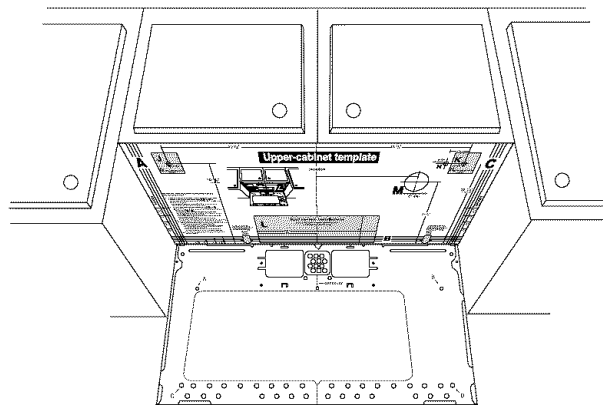

Figure 23
See **Figure 23**.
5. Measure the bottom of the upper cabinet frame. Trim the edges "A", "B" and "C" on the upper cabinet template so that the template will fit on the bottom of the upper cabinet. If upper cabinet has a recessed frame, trim template so that it fits inside the recessed area. Align the centerline of the upper cabinet template with the centerline of the mounting plate; then securely tape or tack the upper cabinet template in place. See **Figure 23**.